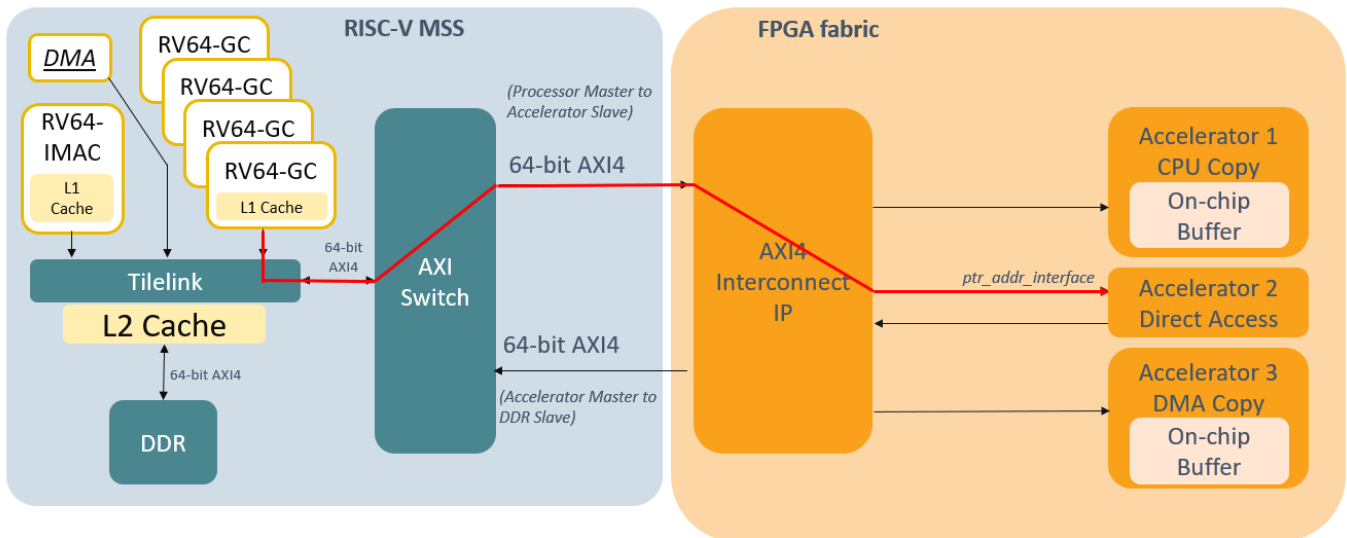
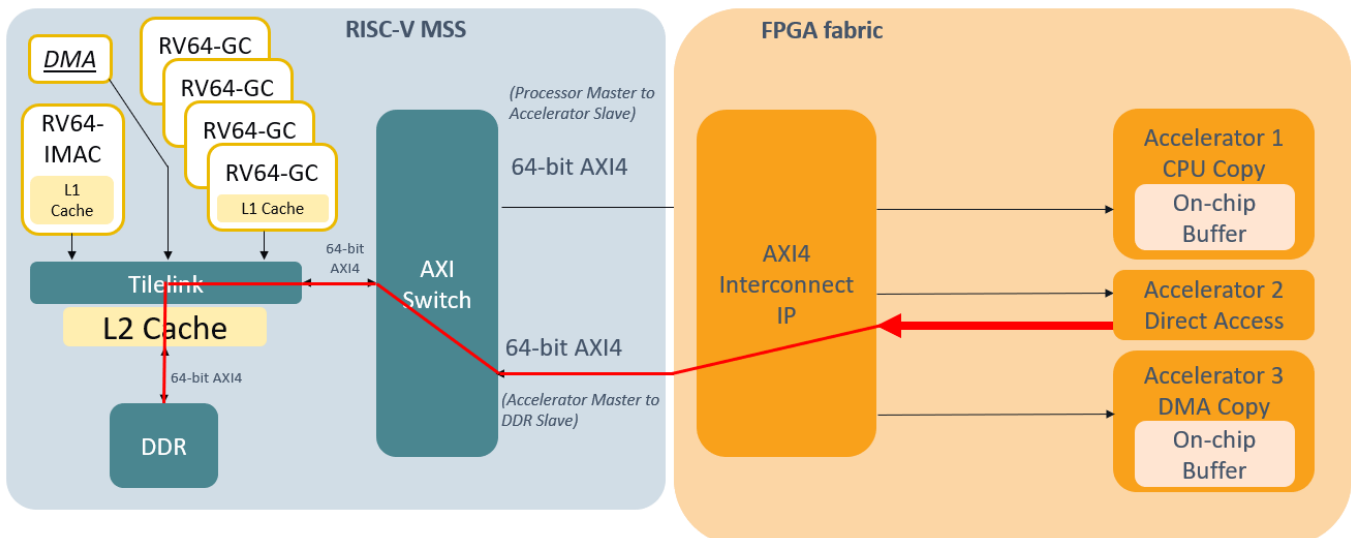

Figure 6-36 MSS Sends the Pointer to Accelerator AXI Target Interface in Direct Access Mode
Figure 6-37 Accelerator AXI Initiator Interface Requests Data Directly from DDR in Direct Access Mode
1. AXI Target: The accelerator receives a pointer to where the argument is stored (e.g. address in DDR memory) through the `ptr_addr_interface` AXI Target interface from the MSS (Figure 6-36), and then
2. The accelerator using the AXI initiator interface accesses DDR memory through the MSS cache (Figure 6-37).
Line 124 specifies the default control type for `axi_target`, which is redundant since the default interface type was defined as `axi_target` on line 123. The interface type for arguments `a`, `b` and `result` is set to `axi_initiator` on lines 125-129. The `ptr_addr_interface` sub-option on line 126 specifies the type of interface that is used to receive the pointer address to access the argument. In this case, the pointer address of argument "a" will be received with the AXI target interface as shown in Figure 6-36, and this pointer address will be used to access the data for argument "a" with the AXI initiator interface as shown in Figure 6-37. If the `ptr_addr_interface` is not specified, for example for argument b, SmartHLS will use the default interface type defined on line 123 (`axi_target`). See the AXI4 Initiator Interface section of the user guide.